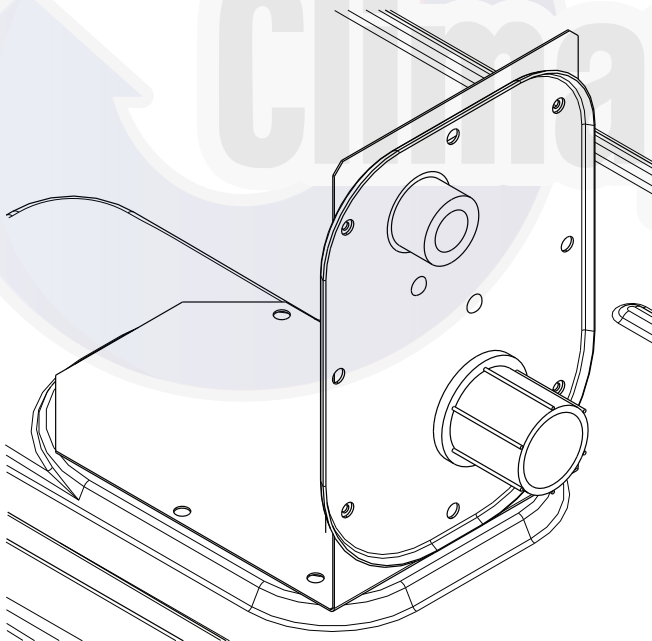

Fig. 29 — Thru-the-Base Fitting Assembly (Shown in Shipping Position)
This service connection kit consists of a 1/2-in. electrical bulkhead connector and a 3/4-in. electrical bulkhead connector, connected to an “L” bracket covering the embossed (raised) section of the unit basepan in the condenser section (see Fig. 29 for shipping position).
3. Place the gasket over the embossed area in the basepan, aligning the holes in the gasket to the holes in the basepan. See Fig. 29.